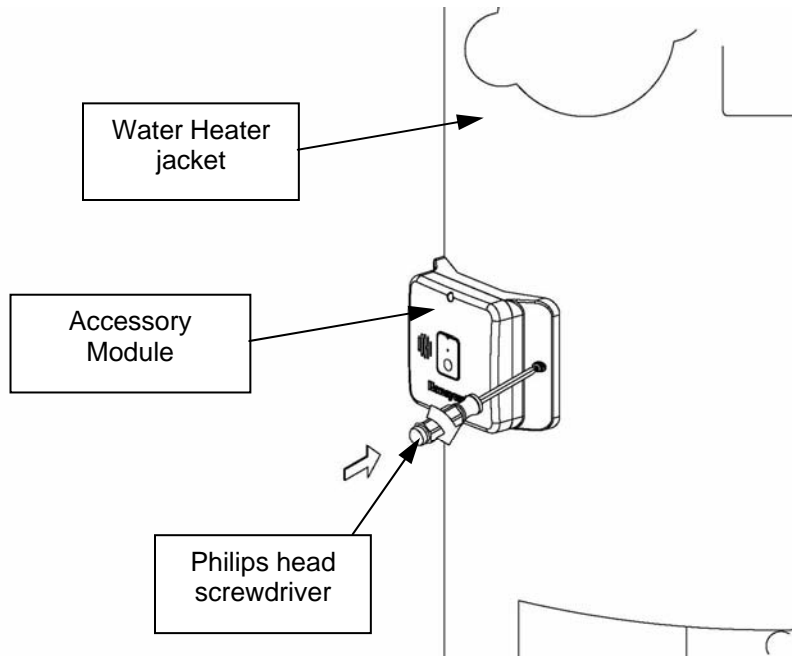

Figure 9
Step 9: Using (2) of the included Philips head screws, screw the Accessory Module to the water heater jacket, as shown in Figure 9.